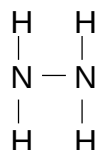

Fig. 6.2
- (d) Nitrogen reacts with hydrogen to form another product, hydrazine (N_2H_4). Hydrazine is often used as a rocket fuel. Fig. 6.2 shows the structural formula of hydrazine.